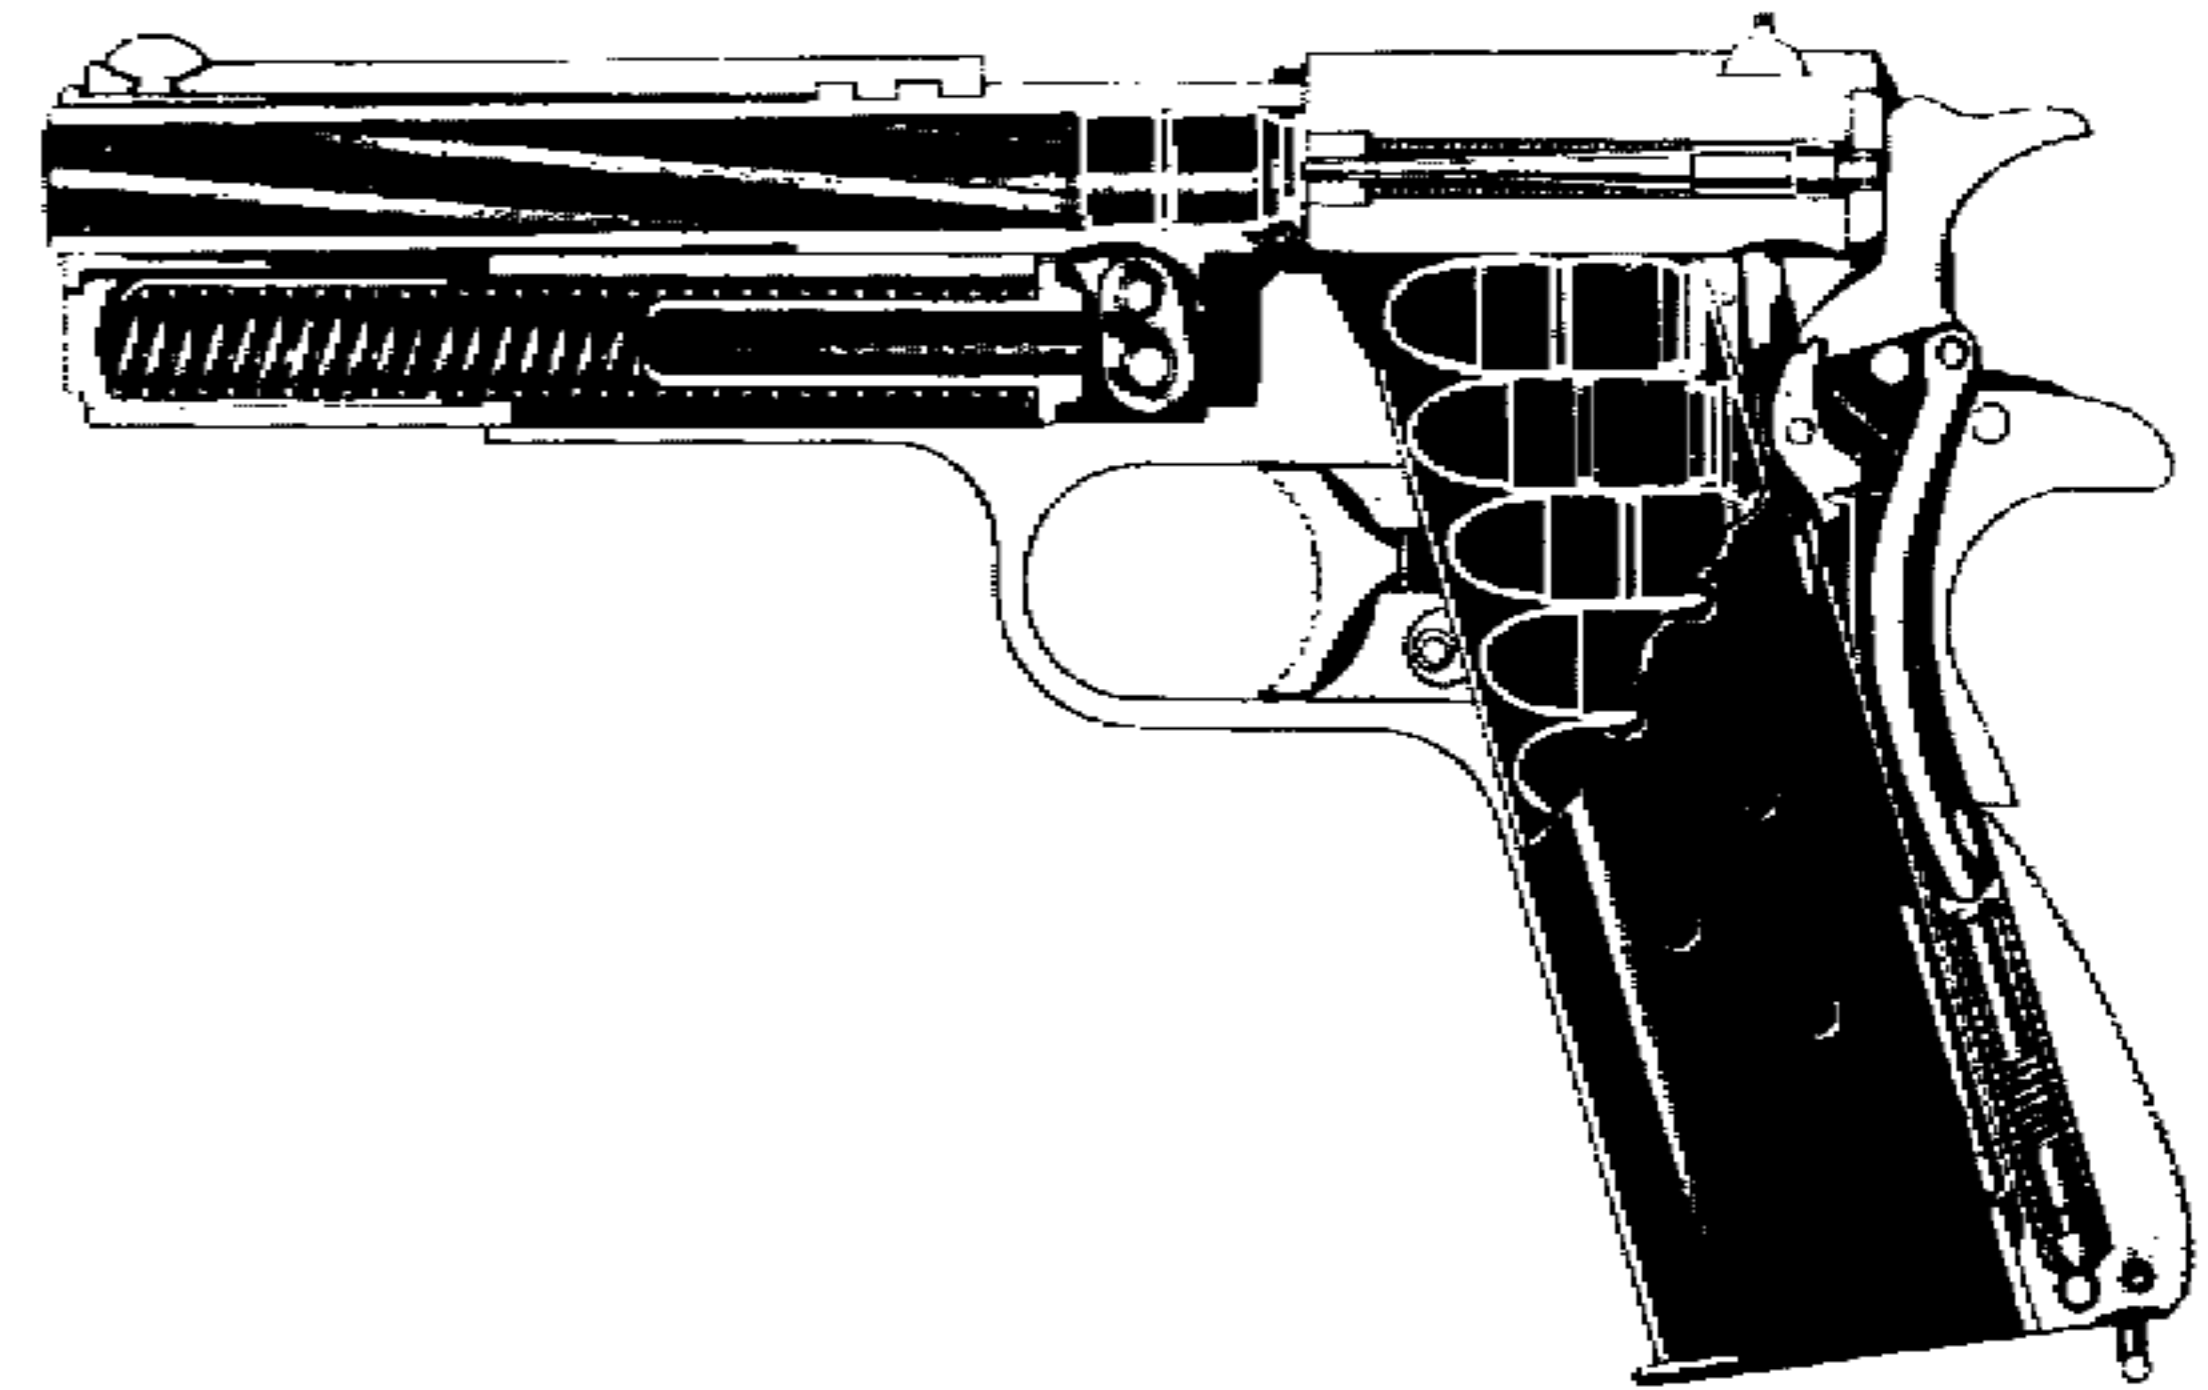

Figure 18.— **Sectional View of Pistol M1911A1, Hammer Down, Firing Pin Striking Cartridge**
(1) The grip safety must be pressed in permitting the trigger to move.
(2) The slide must be in its forward position, properly interlocked with the barrel, so that the disconnecter is well in the recess on the underside of the slide, under action of the center leaf of the sear spring. In this position, it transmits any motion of the trigger to the disconnecter and sear.
(3) The safety lock must be down, in the unlocked position, so that the sear will be unblocked and free to release the hammer. The slide will then be free to move back.
e. Squeezing the trigger disengages the sear from the sear notch, releasing the hammer and letting it strike the firing pin. The blow overcomes the inertia of the pin and causes it to move forward. The forward end of the pin then strikes the primer of the cartridge, causing it to fire (fig. 18).